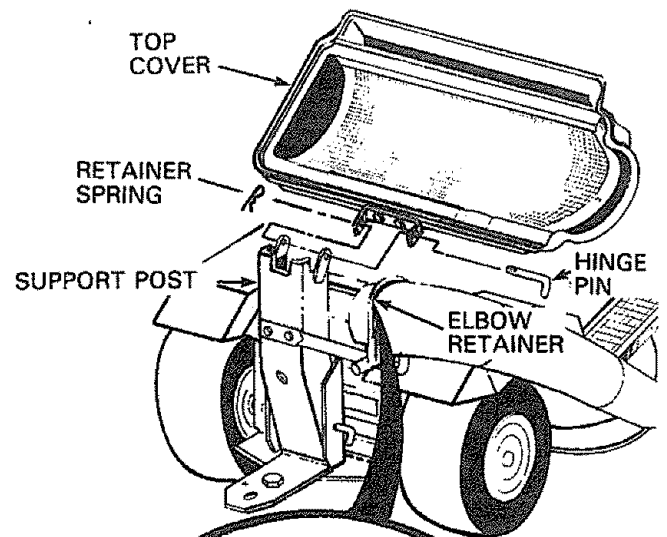

FIGURE 12
9. Slide elbow through elbow retainer (Fig. 12 - Inset). Secure elbow to elbow retainer using: two clips, two screws, two washers and two acorn nuts. NOTE: Mount clips in holes located 2 - 1/2" from edge of elbow. Hardware shown full size below. Heads of screws and flat washers mount to the inside of elbow. Position clips with closed end of clip facing tube opening as shown in Fig. 12 - Inset. Tighten securely. NOTE: Tighten hardware assembled in step 8. Elbow and hardware furnished with grass catcher.
11. Mount top cover to support post (Fig. 12) using hinge pin and retainer spring. Retainer spring shown full size below. Hinge pin and retainer spring furnished with grass catcher.